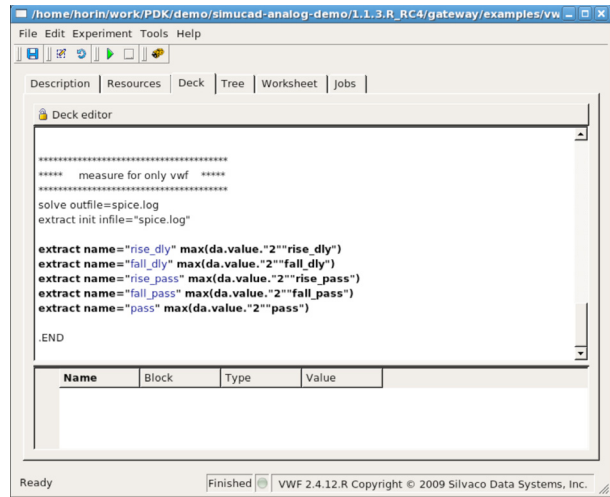

Figure 6. Edited bottom section.
2. Remove comment delimiters of bottom to display a list of simulation result in VWF. See Figure 6